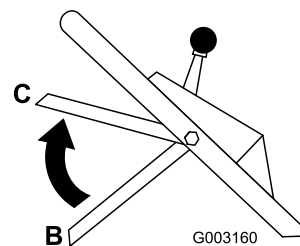

Figure 24
4. Bring the control bar up into the middle position about 5 inches (12.7 cm) below the handle cross bar (Position C in Figure 24).
5. Release the control bar (Position B in Figure 24).